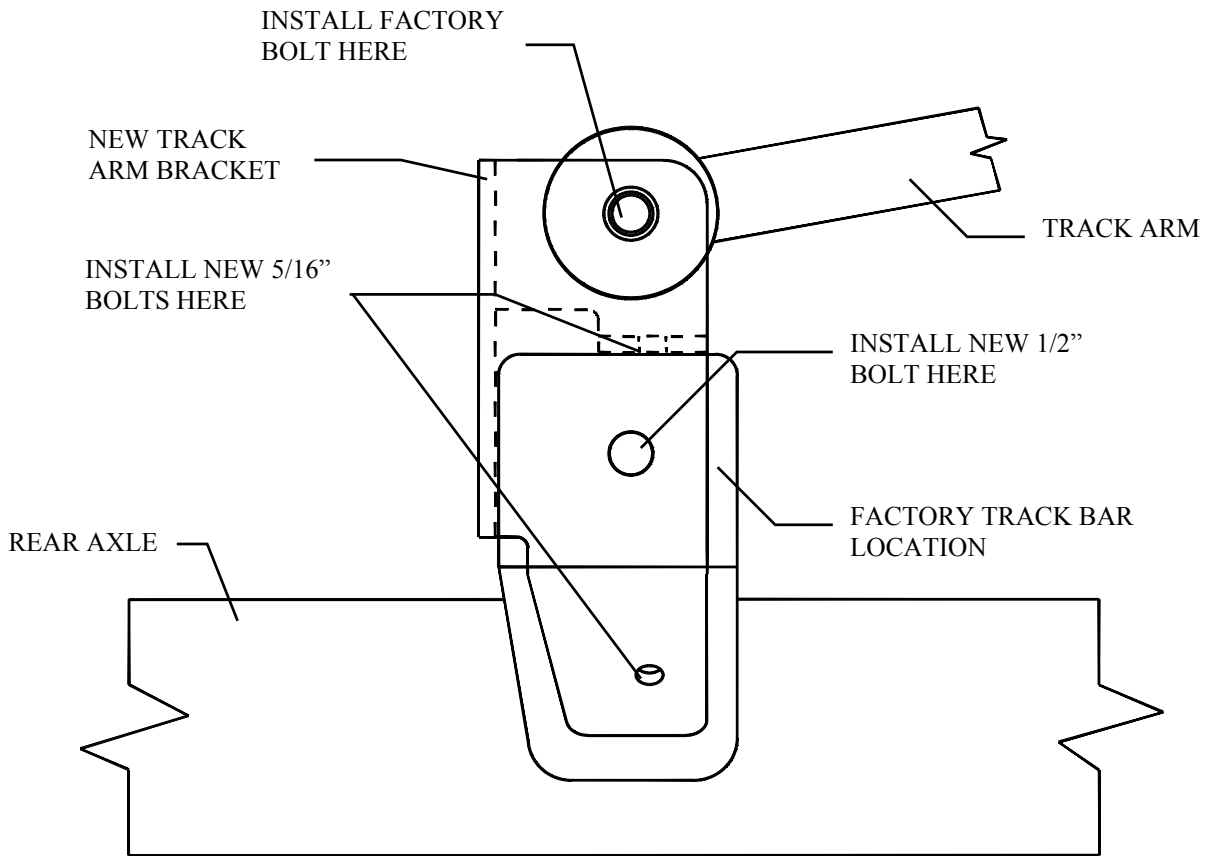

Figure 4.
3. Install the new track bar bracket . Place the bracket on the original track bar mount and install the new 1/2" x 3" bolt through the bracket , the original mounting hole, and the spacer provided. Tighten the 1/2" bolt. Using the new bracket as a guide, drill two 5/16" holes into the factory bracket. Install the 5/16" x 1" bolts through the new bracket and the factory bracket. Torque the 5/16" bolts to 17-19 ft/lbs. and the 1/2" bolt to 70 ft/lb.. **(SEE FIGURE 4)**